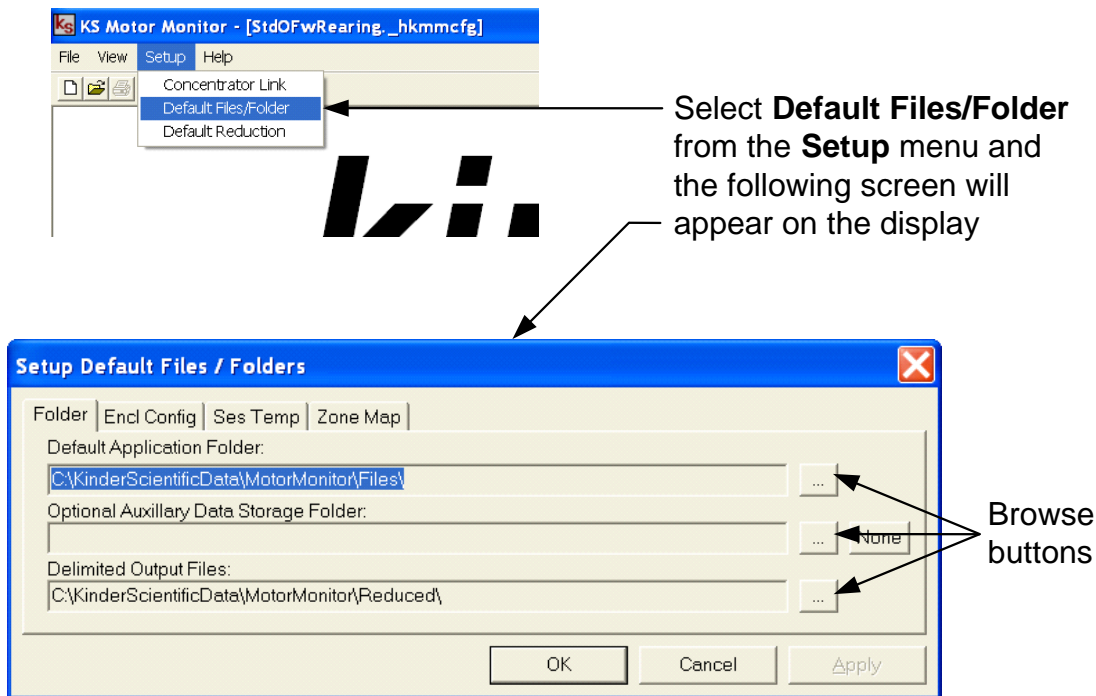

Figure 3-1. Setup Default Files/Folders Menu
3.2.3 Setting Default Files/Folders You can customize your system by configuring the default settings to your specific needs. To set the defaults click on **Setup**, then click on **Default Files/Folder**. A menu will appear as shown in Figure 3-1.
3.2.3.1 Folder Tab - Default Application Folder This field determines where *MotorMonitor* stores the raw data files (refer to Figure 3-1). You can use this setting to store each study in a different directory. However, if you change the directory for each study, you must change this default each time you start a new study. To change the directory, click on the browse button at the end of the field. This is how the browse button appears (most of the time) throughout *MotorMonitor*.
3.2.3.3 Folder Tab – Delimited Output Files This field determines where *MotorMonitor* will store the reduced data files (refer to Figure 3-1).